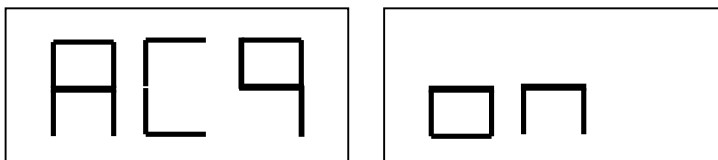

Fig. F3.10 - “Balancing planes acquisition enabled” message
2. Select the plane balancing acquisition mode by pressing [P2]  until the writing ACQ is viewed on the left display as shown in figure F3.10. When the machine is switched on, the acquisition mode is set by default ;